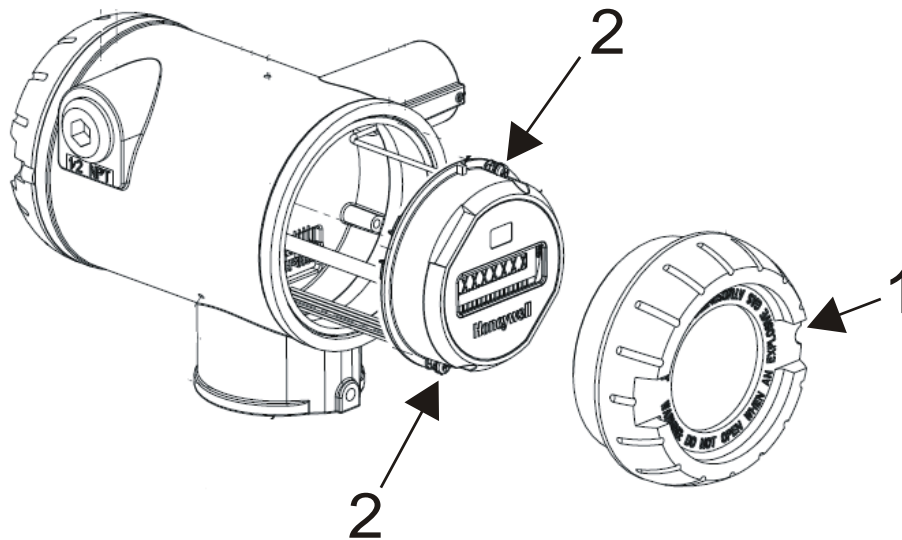

Figure 2-10 Display rotation
2	Loosen the M3 locking set screw on the display end-cap. See item 1 in Figure 2-10. Unscrew and remove the end cap.
3	Loosen the two captive screws on the display/sensor module. See items 2 in Figure 2-10.